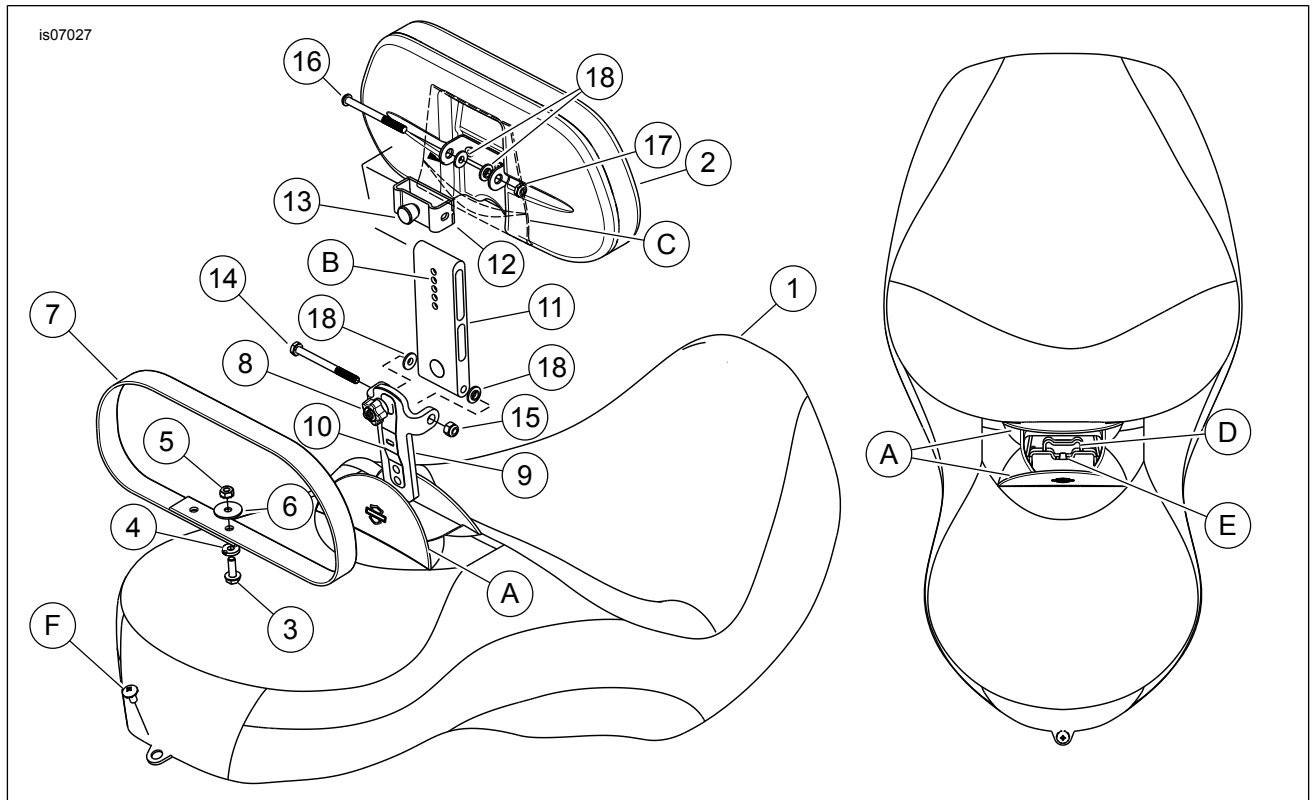

Figure 5. Service Parts: Dyna Seat with Rider Backrest Kit
See Figure 5 and Table 1.
2. See Figure 5. Secure seat with stock screw (F).
1. See Figure 5. Open hook-and-loop flaps (A) on seat (1).
2. Insert backrest assembly (2), with pad facing forward, into slot (D) under the flaps.
3. Insert until spring (10) engages tab (E) inside seat and locks the backrest in place.
1. See Figure 5. Lift the flap (C) on the back of the backrest (2) and expose the spring-pin bracket (12).
2. Pull the spring pin (13) at the back of the backrest and adjust the backrest to the desired height.
3. Release the spring pin and verify that it locks into place in one of the positioning holes (B).
See Figure 5. The backrest can be folded forward to allow for easier mounting and dismounting of the motorcycle.
1. See Figure 5. Open hook-and-loop flaps (A) on seat.
2. Press the spring (10) against the backrest bracket (9) until the spring disengages retention tab (E).